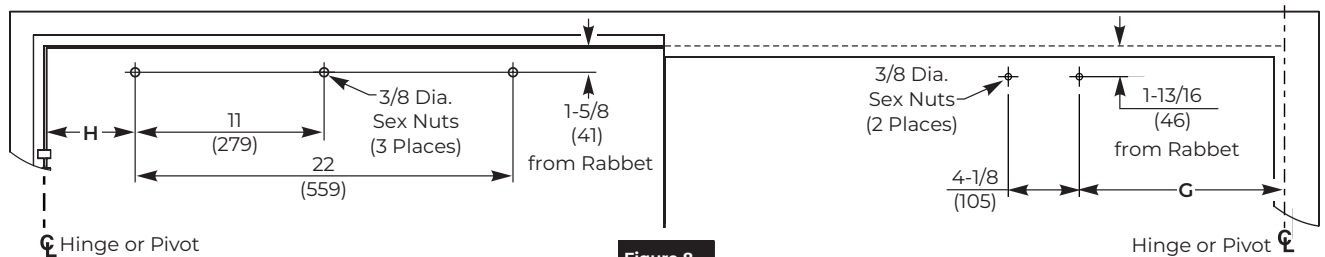

Figure 8
- Locate and prepare track holes in door. (Figure 8)
- Locate and prepare arm shoe holes in door. (Figure 8)